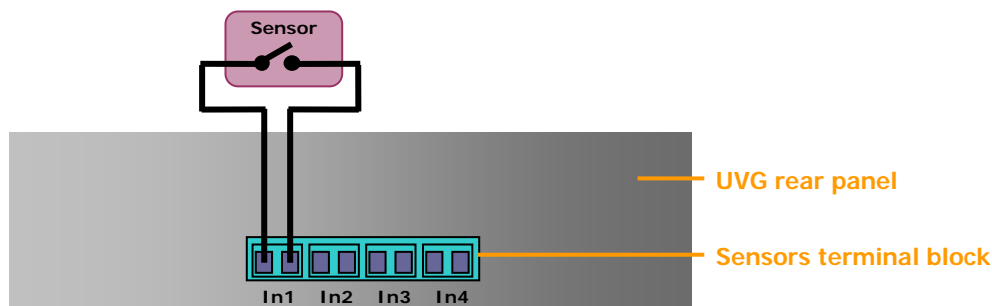

Figure 5: Connecting a sensor
2. Connect the two wire contacts of the sensor or switch to the Sensors terminal block on the rear panel of the UVG400, as illustrated in figure 5. Insert the wires into the connectors and tighten the screws below each connector to hold the wires in place.